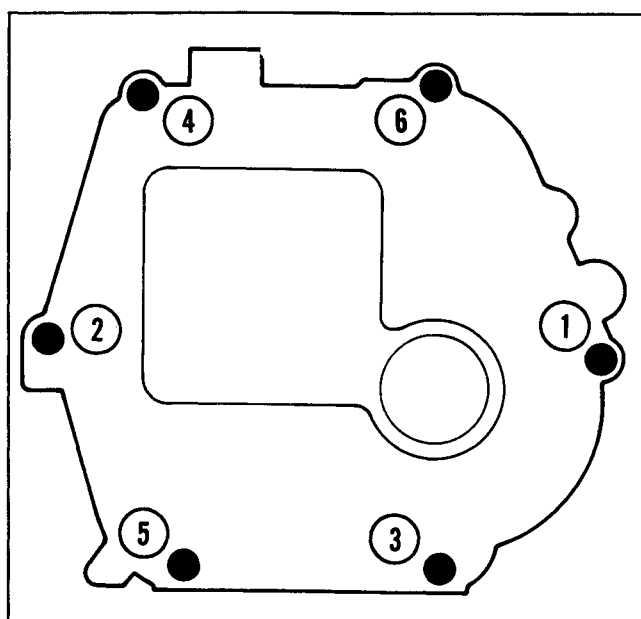

Figure 11-13. Closure Plate Fastener Torque Pattern.
5. Torque the fasteners, in several increments in the sequence shown in Figure 11-13, to **22.6 N•m (200 in. lb.)**.